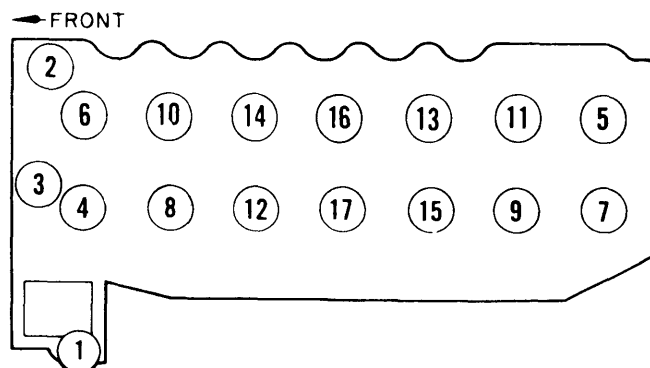

Fig. 1 Cylinder Head Bolt Loosening Sequence
3) Remove timing chain tensioner, camshaft timing gear and camshaft. See *Camshaft Removal*. Loosen cylinder head bolts in two or three steps as shown in Fig. 1.